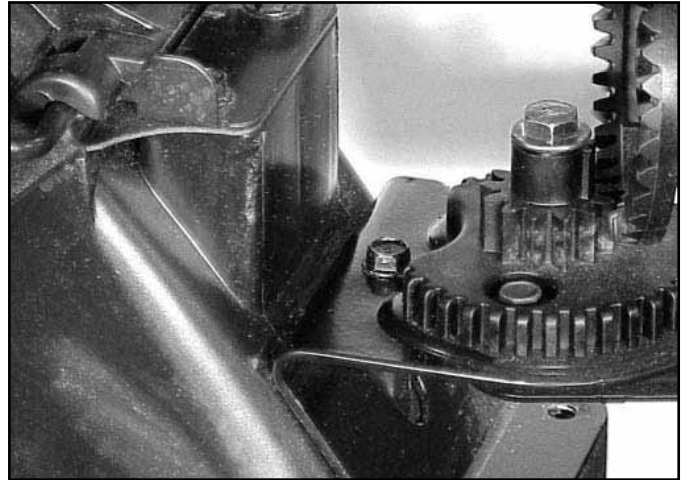

Fig 208
3. Remove the single screw between the gear and the chute (Fig. 208).